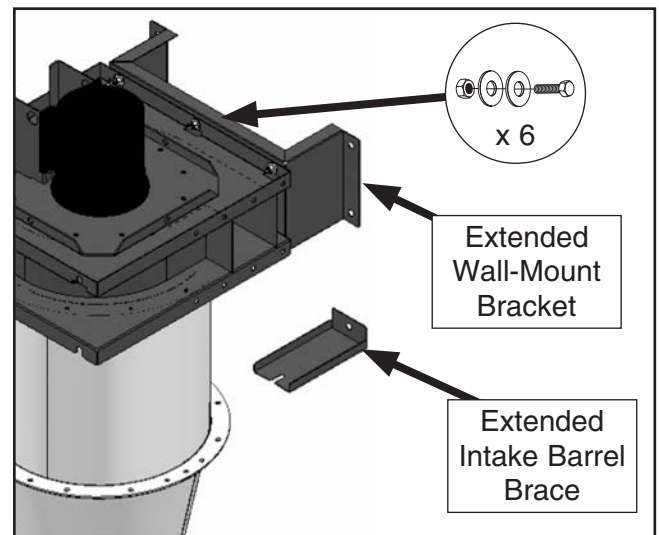

Figure 20. Included with T27324 wall-mount kit.
- Attach extended wall-mount bracket to the blower housing using (6) $\frac{3}{8}$ "-16 x 1" hex bolts, (12) $\frac{3}{8}$ " flat washers, and (6) $\frac{3}{8}$ " hex nuts (see **Figure 20** below).
- Follow **Steps 2–6** in **Assembly** section, beginning on **Page 17** of Owner's Manual. In **Step 6**, replace original intake barrel brace with extended brace provided with T27324 Wall-Mount Adapter Kit for HEPA Upgrade (see **Figure 20** below).